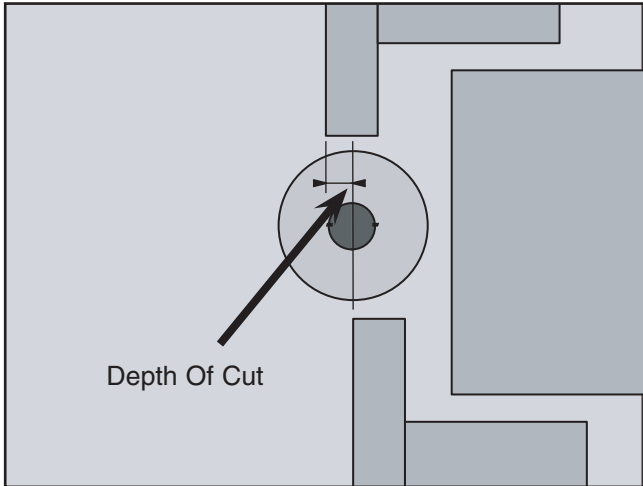

Figure 17. Jointing setup.
5. Adjust the infeed fence to the right of the outfeed fence, so that the distance is equal to the desired depth of cut (**Figure 17**).